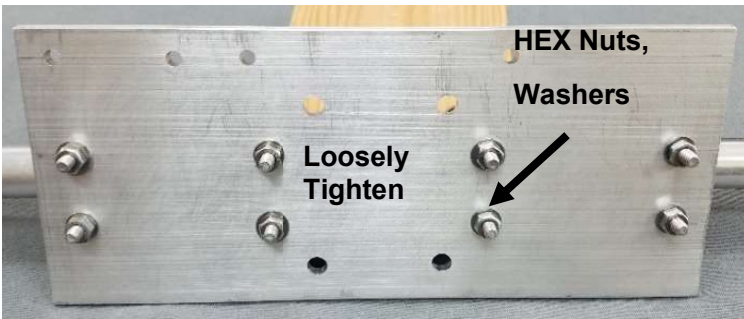

FIGURE 18
□ **STEP 6.18** Secure the 1/4"-20 x 2-1/2" HEX bolts with 1/4" washers (11004) and 1/4"-20 standard HEX nuts (11005), as shown in **FIG. 18. LOOSELY TIGHTEN HEX NUTS!**